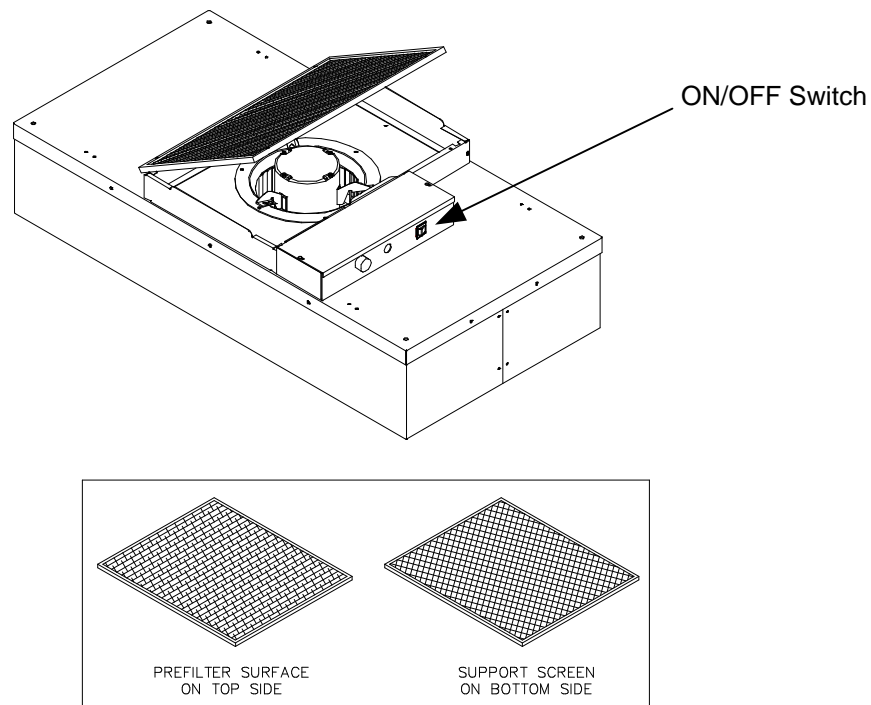

Figure 2 – Prefilter Cleaning
- Step 3.** Remove the prefilter from the snap-in frame. (See Figure 2)